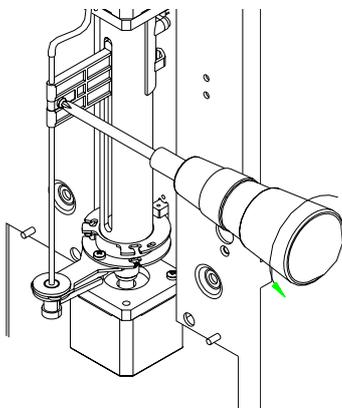

Figure10-45
6. Loosen the retaining screw by a screwdriver, as Figure10-45 shows;